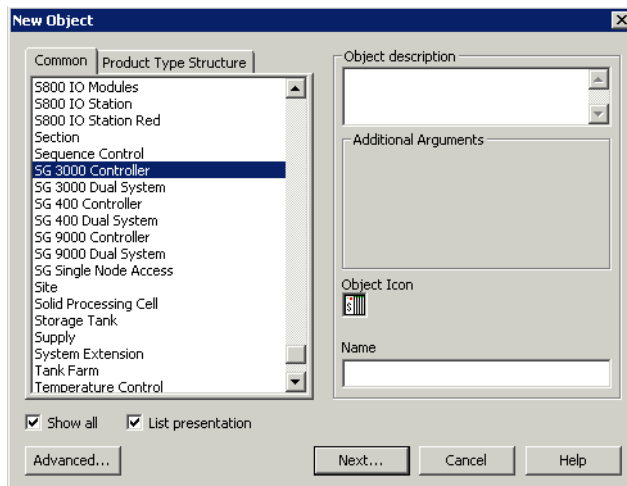

Figure 4. Safeguard Node Objects
- Select the Network object and add Safeguard nodes below. Figure 4 shows the possible node types that can be selected.
3. Select the Controller type object. Request creation of a new object and select a Controller type, see Figure 4. It is recommended to include the node number in the object name.